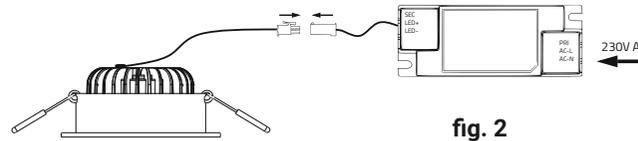

fig. 2
2. Connect the recessed downlight to the secondary side line of the converter using the connector supplied with the matching counterpart of the connector. Connect the existing 230 V AC mains voltage to the primary side of the converter (fig. 2).